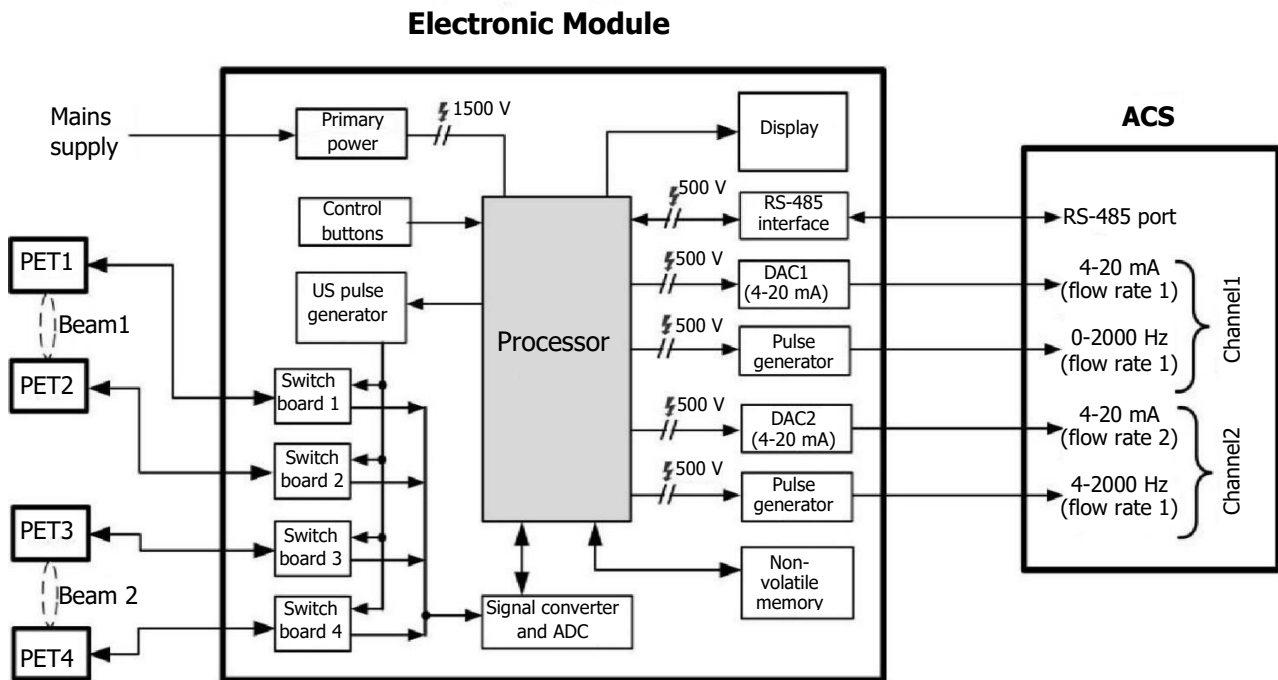

Figure 3.1. Functional chart of the flowmeter
3.2.1 The functional chart shows the main elements involved in the flowmeter operation, Figure 3.1.